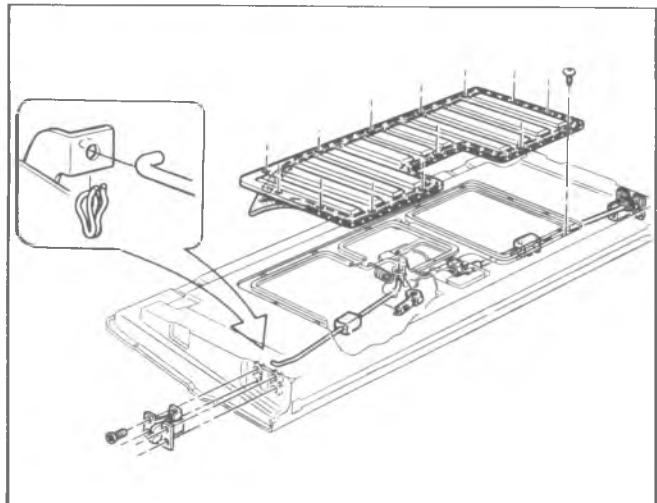

Fig. 61—Latches and Rods
2. Disconnect side latch remote control rods from center control by removing retaining clips. See figure 61.